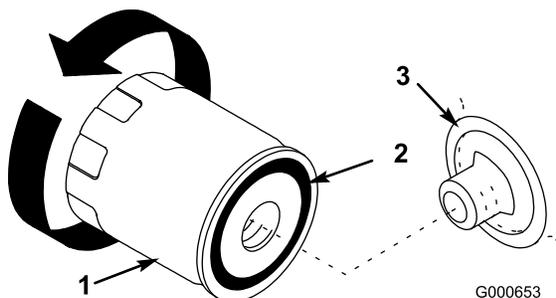

Figure 31
- Remove the old filter and wipe the filter adapter (Figure 31) gasket surface.
- Apply a thin coat of new oil to the rubber gasket on the replacement filter (Figure 31).
- Install the replacement oil filter to the filter adapter. Turn the oil filter clockwise until the rubber gasket contacts the filter adapter, then tighten the filter an additional 1/2 turn (Figure 31).